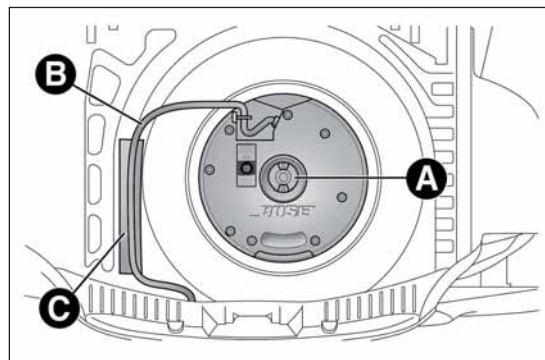

fig. 122
- ☐ unscrew locking device A fig. 122, raise the subwoofer and then remove connection cable B from the Velcro C;
- ☐ rest cable B fig. 122 on the Velcro C to avoid pinching it;